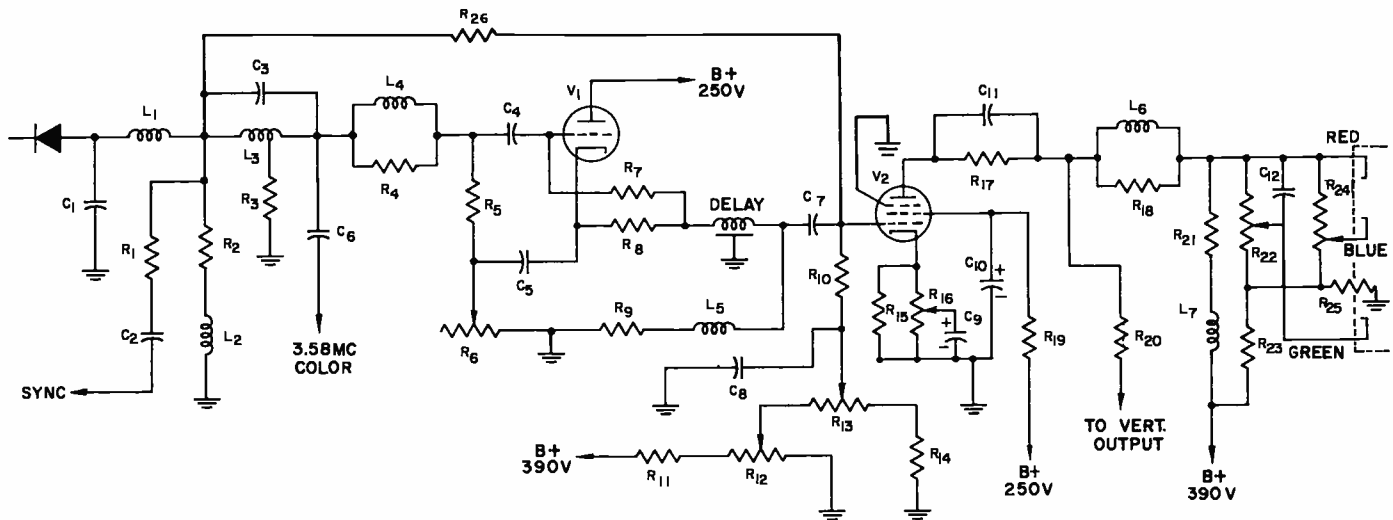

Fig. 29. A two-stage video amplifier from a color TV receiver.
Another two-stage video amplifier is shown in Fig. 29. This is typical of the video amplifiers found in many color TV receivers. The sound is taken off before the video detector. The last video i-f transformer contains a 41.25 mc sound absorption trap to keep this signal at as low a level as possible. Any 4.5 mc sound that is developed in the video detector is trapped by the 4.5 mc trap consisting of L_3 and C_3 .
Fig. 29 shows where the 3.58 mc color signal is taken off through C_6 . The 3.58 mc color signal is fed from C_6 to the color amplifier stages. Notice the connection to the vertical sweep output through R_{20} . This is to provide a positive pulse from the vertical output tube which is fed to the cathodes of the picture tube during vertical retrace to give vertical retrace blanking.
in the plate circuit fed to the cathodes of the tri-color tube through a circuit similar to the one described in Fig. 29.
The signal from the plate of V_2 is fed through the parallel combination of L_7 and C_8 , through the delay line L_8 , through C_9 and then the parallel combination of L_9 and R_{15} to the grid of V_3 . Meanwhile the dc component of the video signal reaches the grid of V_3 from the detector through R_3 , L_3 , R_{12} and R_{21} . In this stage the signal is amplified and its phase inverted and then fed through the parallel combinations of R_{19} , C_{12} and L_{10} , C_{13} to the cathodes of the tri-color tube. There are provisions for varying the signals fed to the various cathodes similar to those in Fig. 29.
- (ab) In the video amplifier shown in Fig. 29, what is the picture phase at the input to V_1 and at the picture tube?
- (ac) What is the approximate gain of V_1 in Fig. 29?
- (ad) In the circuit shown in Fig 29, which gun receives the maximum drive?